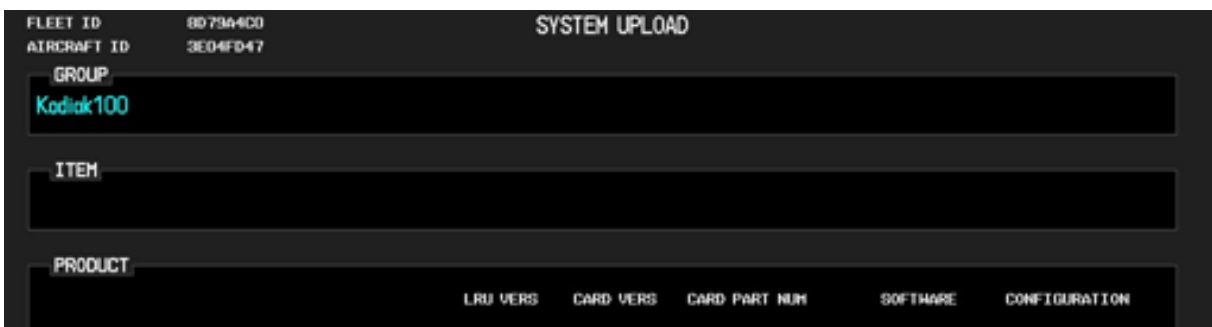
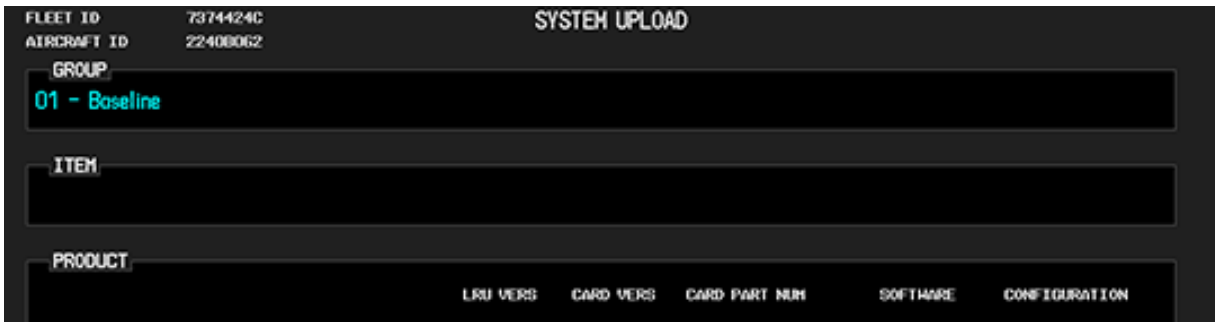

Figure 2-12. System Upload Page
Figure 2-13. System Upload Page
4. The system is now in configuration mode. The System Upload page is displayed (see Figure 2-12 and Figure 2-13).